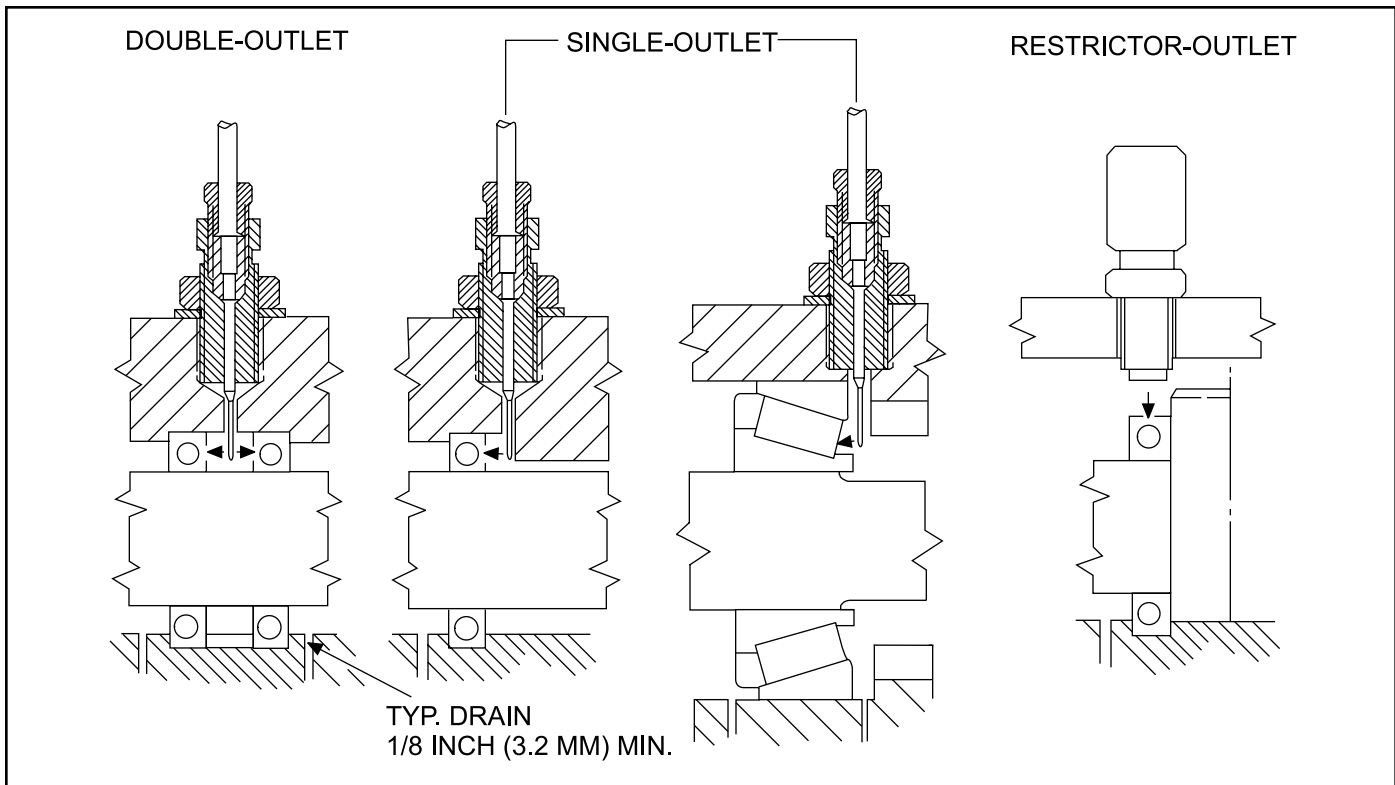

Figure 2-6. Nozzle Tube Applications
- 2.3.2.1** Several different styles of nozzle tubes are available; double-outlet, single-outlet and restrictor outlet. Figure 2-6 shows typical applications for each style. Typically, one nozzle is required for each front or rear bearing group. The orifice(s) at the nozzle tip are directed toward the rolling element below the bearing cage assembly. To avoid excess buildup of lubricant around the bearing, drain holes need to be provided at the low point of each bearing pocket.